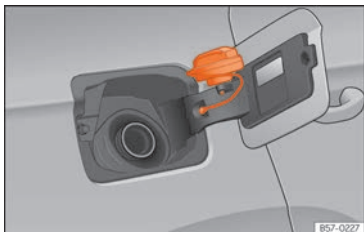

Fig. 216 Fuel tank flap with tank cap attached.
- Place it in the space on the hinge of the open flap »» Fig. 216.